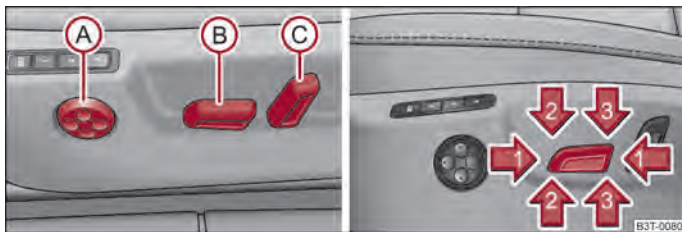

Fig. 57 Side view: Controls for adjusting the seat/seat setting switch
- Press the switch (B) ⇒ fig. 57 forwards or backwards in the direction of arrow ①.